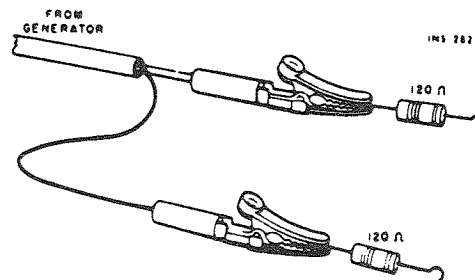
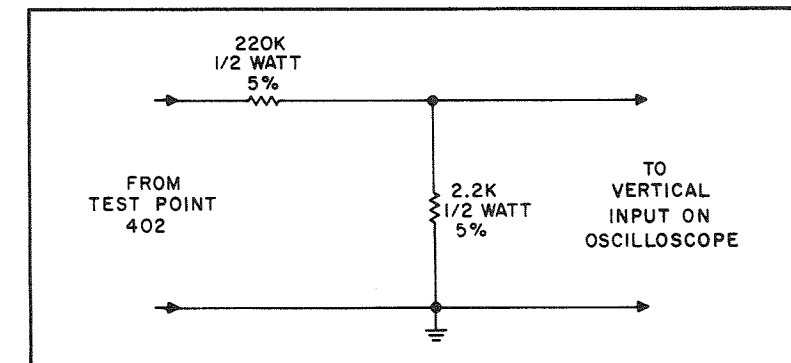

Figure 3. Connections To Provide 300-ohm Generator Output Impedance. Matching Resistors Reduce Generator Voltage By Half At The Antenna Terminals.
Figure 5. Voltage Divider Probe.
- (1) Connect an FM generator to the FM ANTenna terminals. Use a 120-ohm composition resistor in series with each lead from the generator (see Figure 3). Connect a scope and an AC VTVM to either the Left or Right RCDR OUT jack.
- (2) Set FM generator frequency to 88 MHz, modulated with 400 Hz, ± 75 kHz deviation. Press TUNE-O-MATIC pushbutton No. 1 and set the dial pointer to 88 MHz. Set generator output as low as possible.
- (3) Align FM oscillator coil (L504) core first; then align mixer coil (L503) and RF coil (L502) for maximum gain and symmetry.
- (4) Set FM generator frequency and dial pointer to 108 MHz.
- (5) Adjust oscillator trimmer (C512) first; then adjust mixer trimmer (C511) and RF trimmer (C503) for maximum gain and symmetry.
- (6) Repeat alignment several times until accurate dial calibration and maximum gain are obtained. Keep the generator output as low as possible during all adjustments.
- (1) Connect AC VTVM and scope to either Left or Right RCDR OUT jack. Connect DC VTVM to Test Point 302 (on PC3).
- (2) Press TUNE-O-MATIC pushbutton No. 1 and tune to 98 MHz.
- (3) Connect FM signal generator to the FM ANTenna terminals. Use a 120-ohm composition resistor in series with each lead from the generator (see Figure 3).
- (4) Set FM generator output level to 2,000uV, and generator frequency to receiver frequency, modulated with 400 Hz, ± 75 kHz deviation. Adjust top core of Z303 (on IF board) for 0 V DC; AC VTVM should read 1.20 V (± 200 mV).
- (5) Detune FM generator until DC VTVM indicates +1 volt. Turn AFC switch ON. DC VTVM should read a lower value (between 0 volt and +1 volt).
- (6) Turn AFC switch OFF and detune FM generator until DC VTVM indicates -1 volt. Turn AFC switch ON. DC VTVM should read a lower value (between 0 volt and -1 volt).
- (1) Connect RF output of multiplex generator to the FM ANTenna terminals. Use a 120-ohm composition resistor in series with each lead from RF output (see Figure 3). Set MPX generator for external modulation with 19 kHz pilot carrier, ± 7.5 kHz deviation (10% pilot, no audio). Tune one of the TUNE-O-MATIC pushbuttons to the RF frequency of the MPX generator.
- (2) Connect DC VTVM to Test Point 403 (on MPX board).
- (3) Adjust cores of Z401 and Z402 (on MPX board) for maximum reading on DC VTVM.
- (4) Connect output of audio generator, set for 1 kHz, to the external modulation input of MPX generator and to external sync input of an oscilloscope. Adjust audio generator level for composite signal ± 75 kHz deviation (10% pilot, 90% audio). Modulate right channel only.
- (5) Connect AC VTVM to Left RCDR output jack. Connect scope through voltage divider probe (see Figure 5) to Test Point 402 (on MPX board).